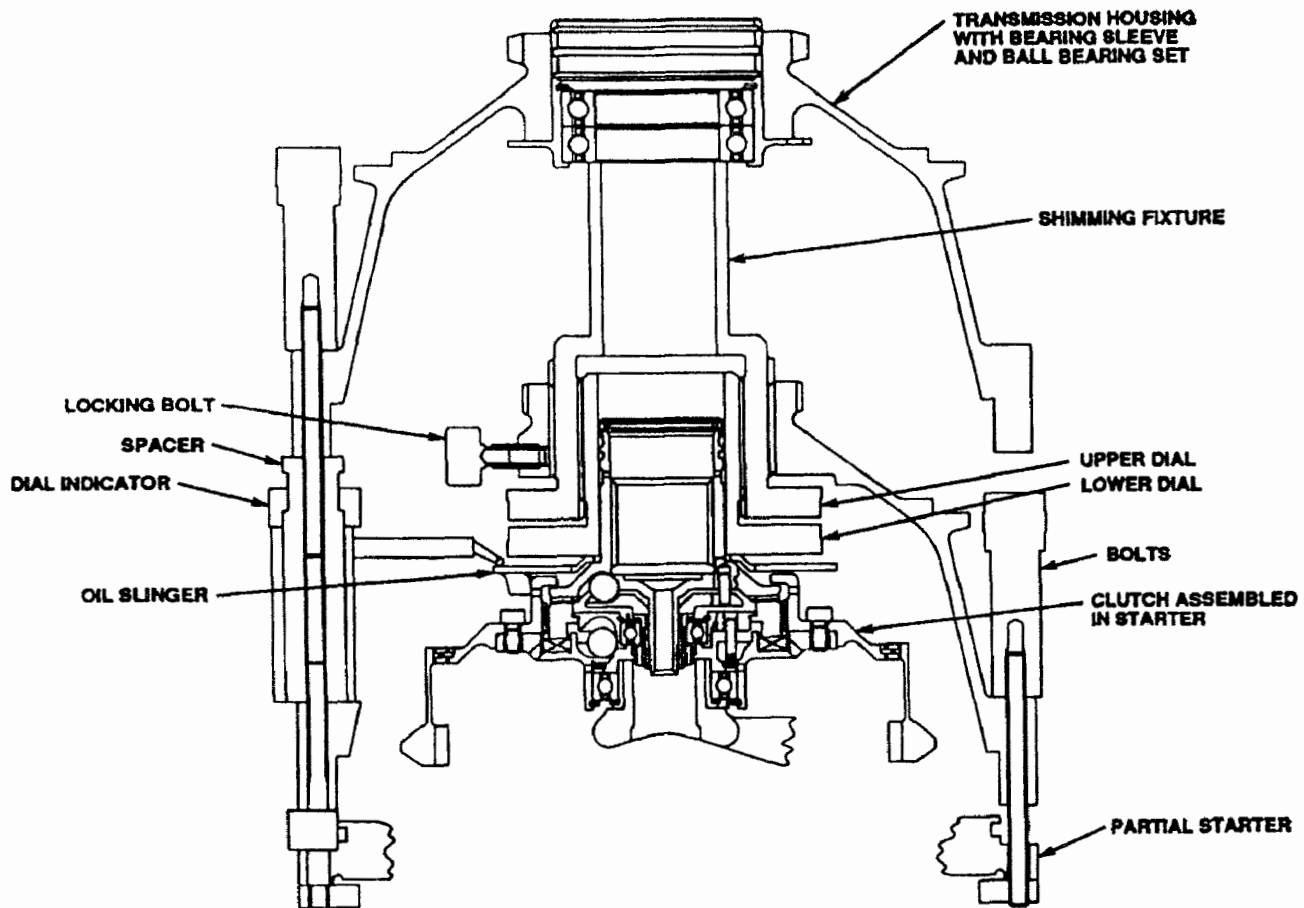

Figure 10. Shimming Fixture
- 2 Bolt the shimming fixture to the Pneumatic Starter with the three bolts supplied with the shimming fixture. Make sure that the bolts are an equal distance apart. Refer to Figure 10.
- (k) Hold the dial indicator in the dovetail clamp attached to the shimming fixture. The dial indicator stem must touch the oil slinger. Refer to Figure 10.
- 2 Make sure that the tube at the top of the fixture does not touch the bottom bearing in the bearing sleeve. If necessary, turn the top dial of the fixture clockwise to move the tube away from the bearing. Refer to Figure 10.